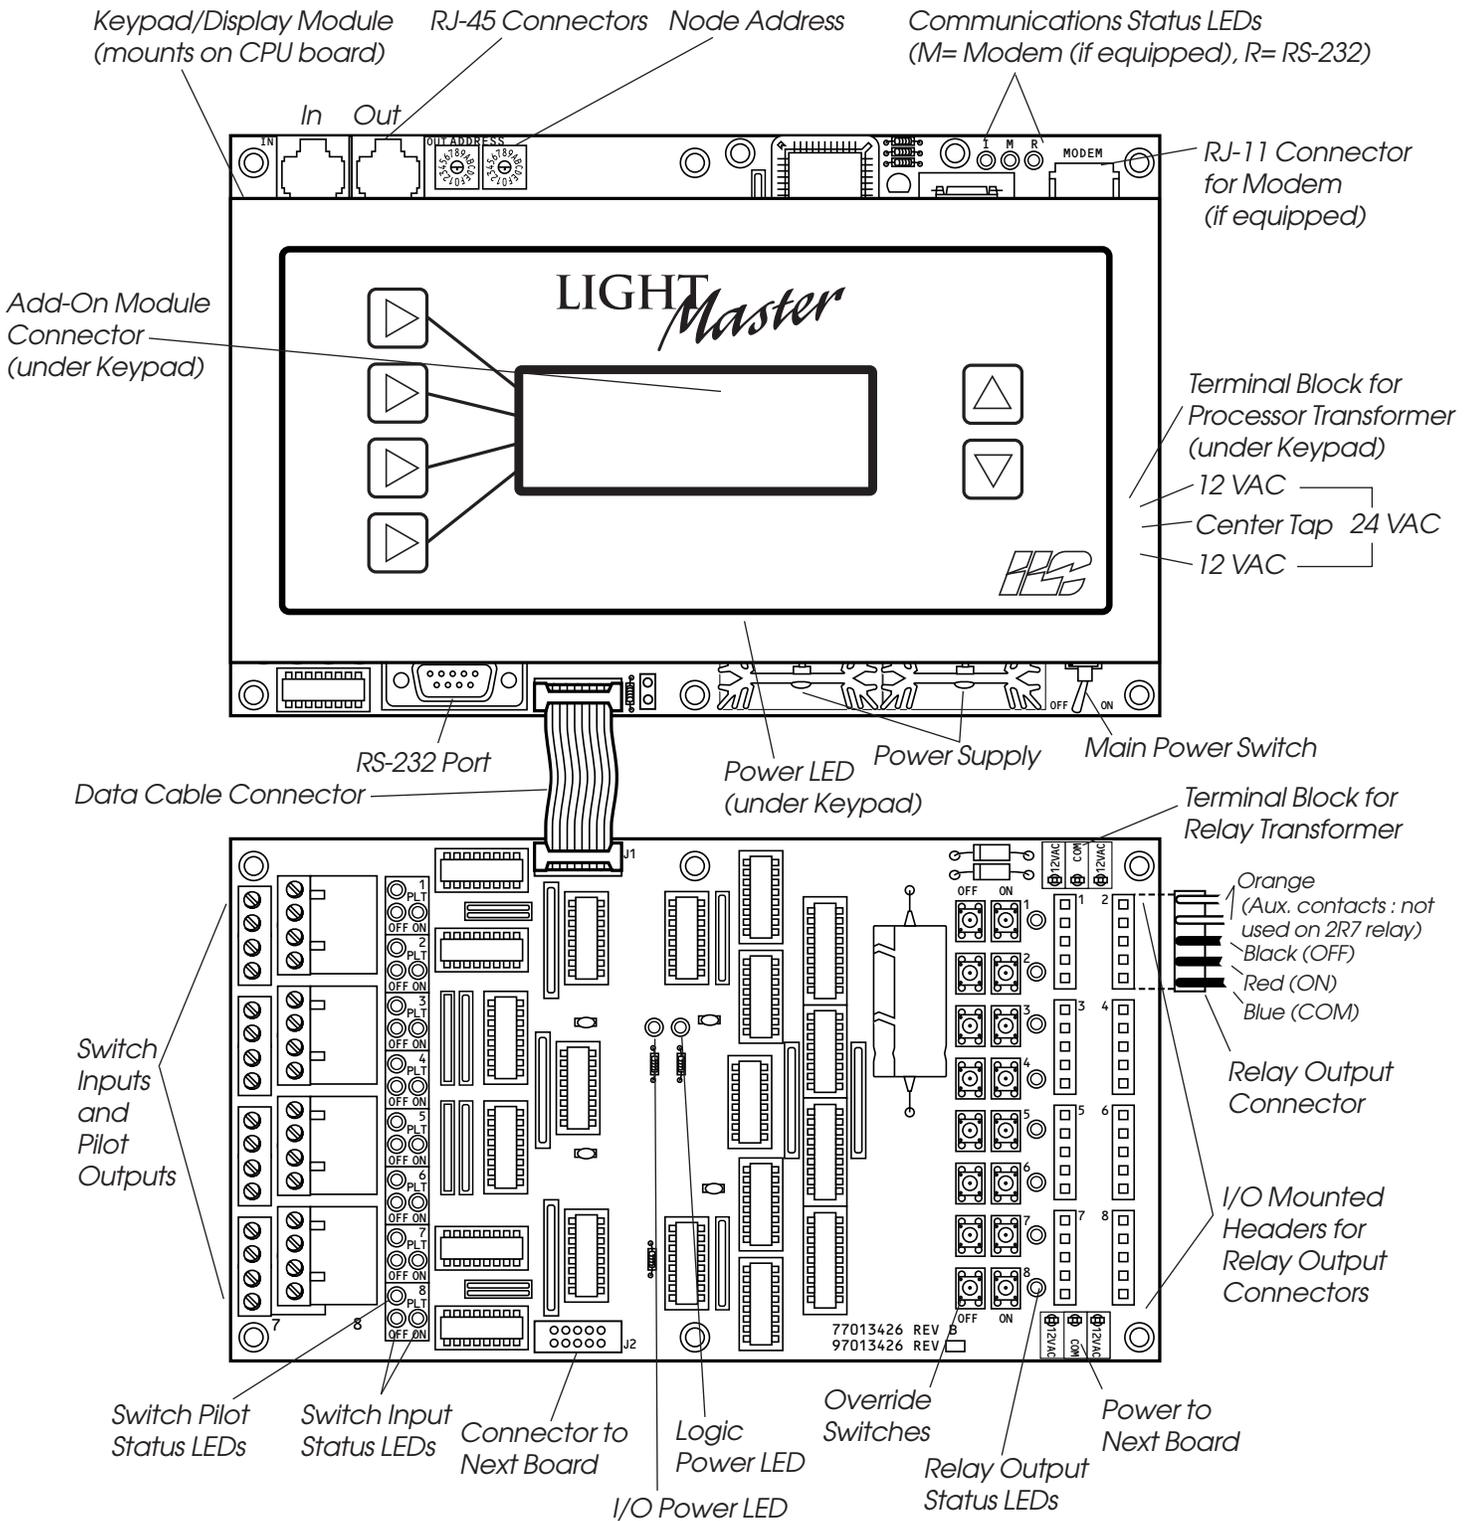

Figure 1.2 – CPU Board and I/O
1.1.3 CPU Board – (See Figure 1.2.) The CPU board provides the controller’s intelligence, memory, and communications capabilities. Major components include:
1.1.6 Lighting Relays – control the line voltage loads. The lighting relays can control 120 or 277 VAC loads rated up to 20 amps. The Class 2 low voltage control part of each relay is terminated to a relay output on the controller I/O board(s). (See Figure 1.2.) Each relay output controls only one lighting relay.